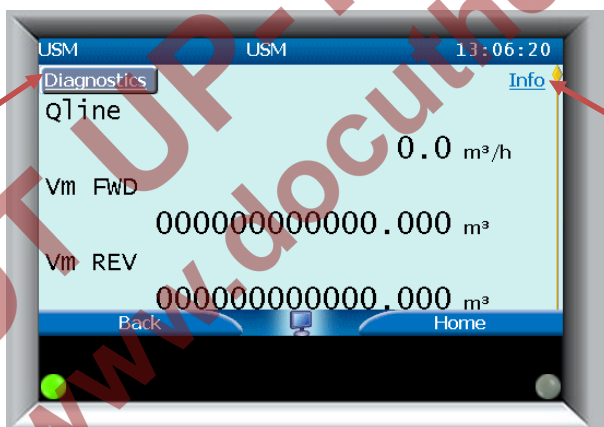

Figure 7-3: Basic Display/USM
The basic display is shown below in Figure 7-3 and displays the following values:
Along the top of the basic display page you will see the sub-menus **Diagnostics** and **Info** marked with red arrows in Figure 7-3. You have to scroll to the top of the page to view or select these sub-menus. For more information on Diagnostics, as well as the two submenus from this screen, please see ⇒ Chapters 7.5 Diagnostics (p.42) and 7.6 Info (p.48), respectively.
Pressing the **Home** button from the **Basic Display** (as seen in Figure 7-3) will bring you to a screen as depicted below in Figure 7-4.
- ▶ From the **Basic Display** screen, scroll to the top of the page and highlight the **Diagnostics** field in the top left hand corner. (See Figure 7-3)